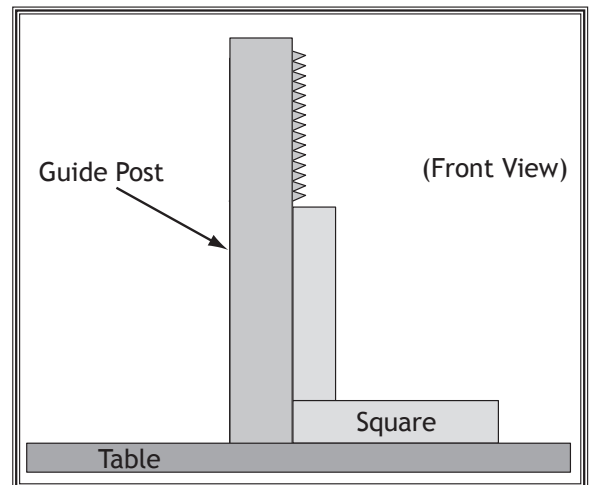

Figure 54. Example of checking guide post squareness.
6. Place a machinist's square on the table next to the right hand side of the guide post, as shown in **Figure 54**.